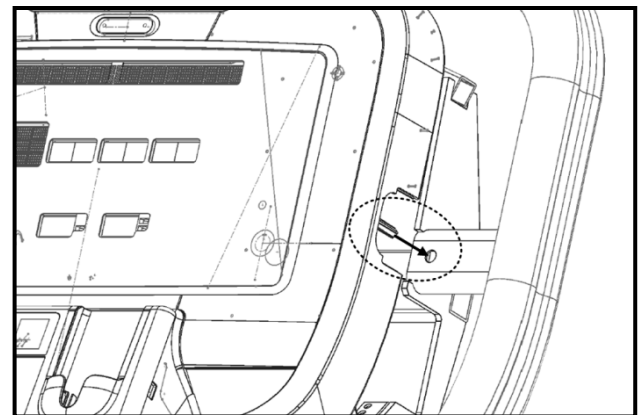

Fig. 17
17. Slide the left & right display alignment studs (Fig. 17) into the corresponding console frame guide holes to rest the top half of the display on to the console frame.